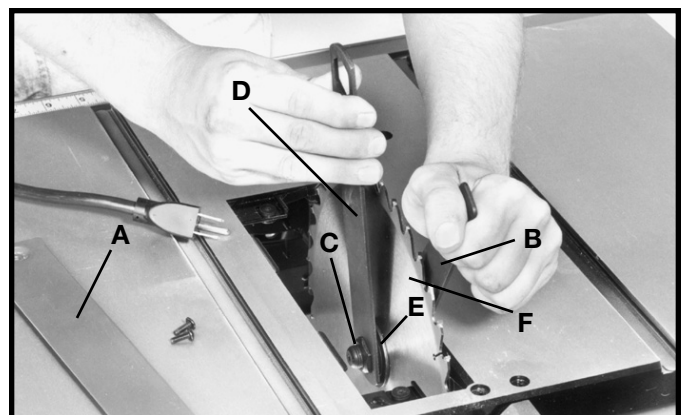

Fig. 48
5. Position the fence at one end of the miter gage slot, as shown in Fig. 48. Clamp the fence to the table by pushing down the locking lever (B). The edge of the fence should then line up parallel with the miter gage slot.
1. Raise the saw blade to its maximum height and remove the table insert (A) Fig. 48.
2. Using the open end wrench (B) Fig. 48, place open end of wrench on flats on inside blade flange to keep the saw arbor from rotating and remove arbor nut (C) with wrench (D). Turn nut (C) counterclockwise to remove. Remove outside blade flange (E) and saw blade (F).
3. Assemble new blade, making certain teeth of blade are pointing down at the front of the saw table and assemble the outside blade flange (E) Fig. 48, and arbor nut (C). Tighten nut (C) with wrench (D) by turning nut clockwise while holding arbor steady with other wrench (B).